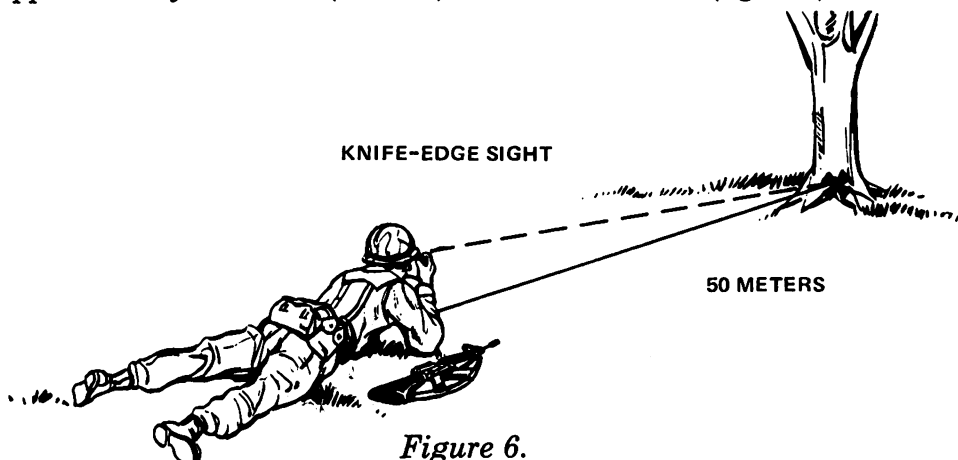

Figure 6.
c. Using the knife-edge sight, select an aiming point at ground level approximately 50 meters (150 feet) in front of the mine (figure 6). Position